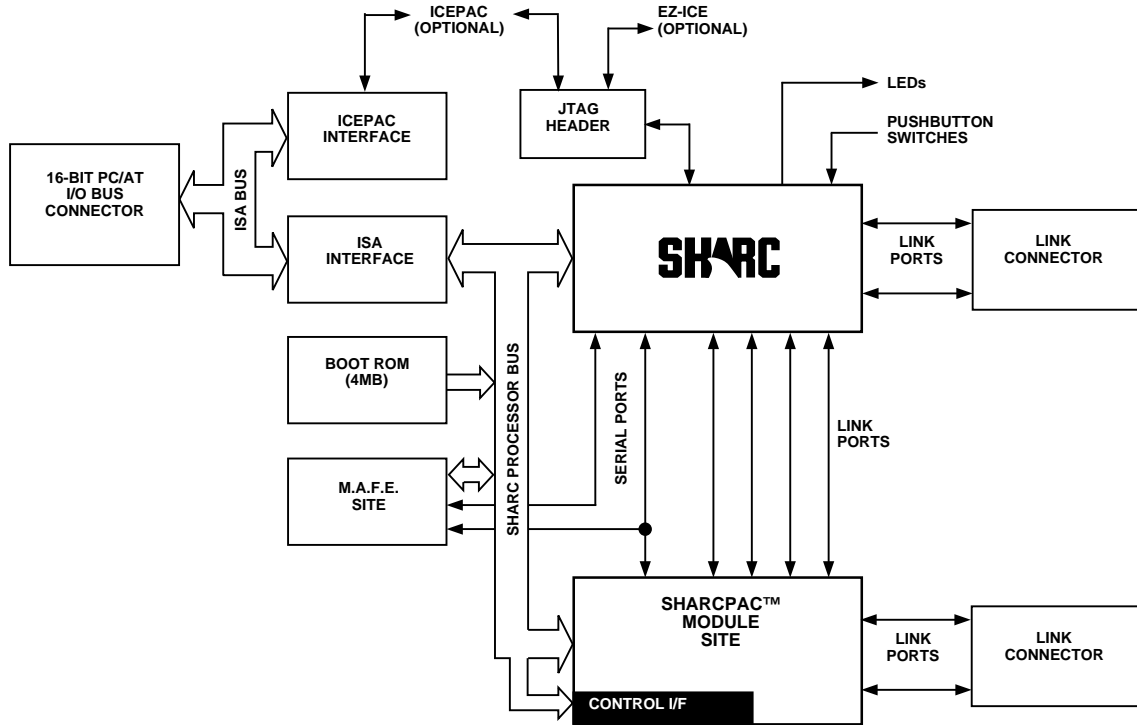

Figure 2. ADSP-2106x EZ-LAB Board
*EZ-LAB Development Board Overview:* The EZ-LAB Development Board is a 16-bit AT compatible plug-in board that lets you control and observe ADSP-2106x executable programs operating in real-time from on-board RAM. Optional processor and memory expansion modules from third parties let you customize the EZ-LAB. Several demonstration programs accompany EZ-LAB for you to familiarize yourself with and evaluate the ADSP-2106x floating-point DSPs. Figure 2 shows the EZ-LAB Board.